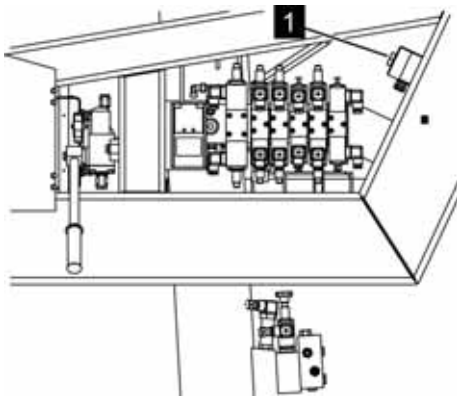

Fig. 122: Service operation button
5. ➤ Hold the button (Fig. 122/1) for service operation down during operation.